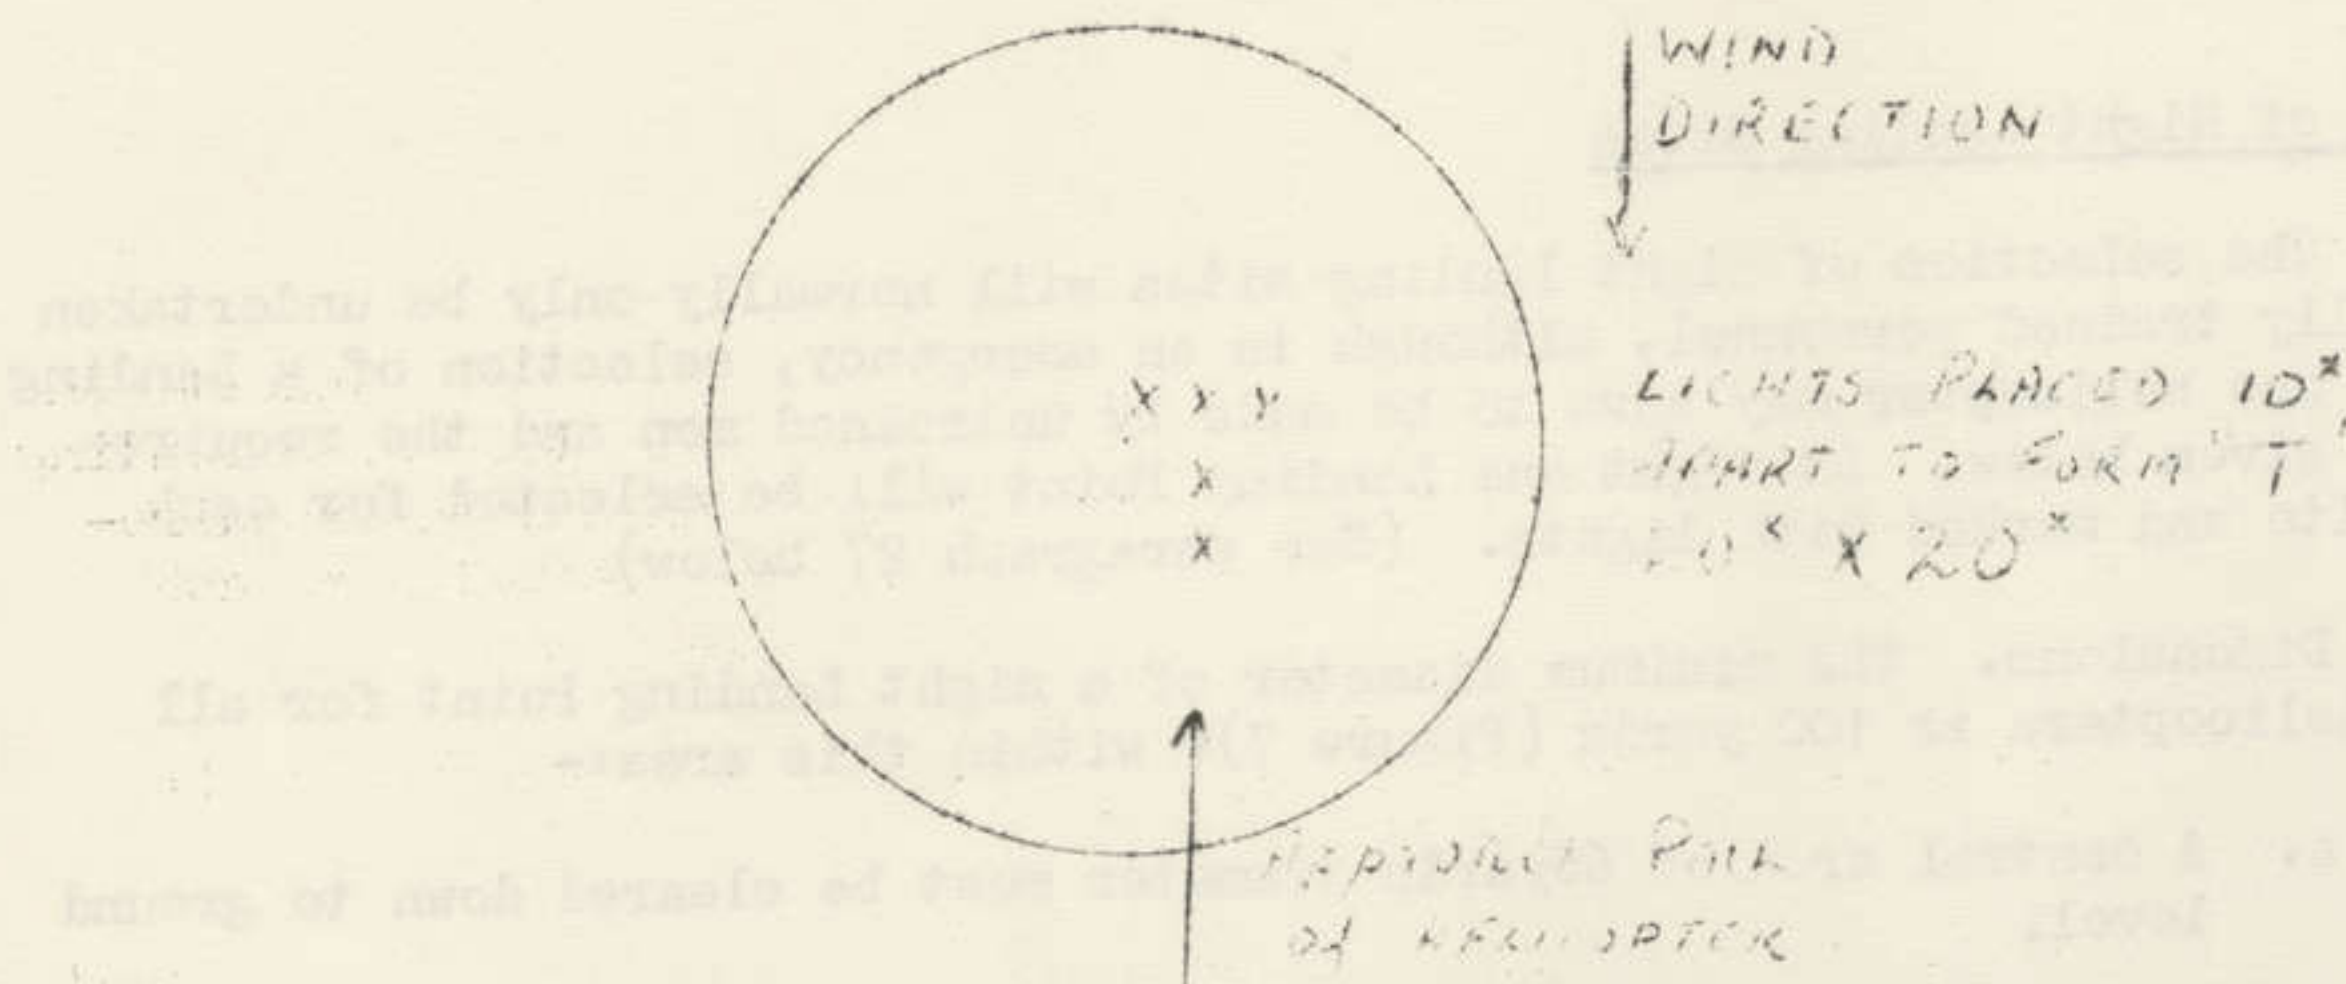

Figure 8 - Night Landing Point Primary Marking Method
- (a) Primary Method. Five lights are laid out on the ground, or hand held by troops lying on the ground, at 10 yard intervals to form the letter "T", 10 yards to the right of the centre of the Landing Point. The horizontal bar of the "T" is placed upwind, so indicating wind direction to the pilot. (See figure 8)